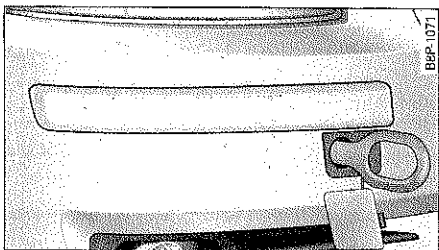

Fig. 221 Front bumper: screwing in the towing loop
- Insert the towing loop into the threaded hole ⇒ fig. 221 and turn it all the way in until it is seated securely, then tighten it with the wheel bolt wrench.
g loop into the threaded hole ⇒ fig. 221
- Attach the winch hook to the front towline eye ⇒ page 318, fig. 221 previously installed.